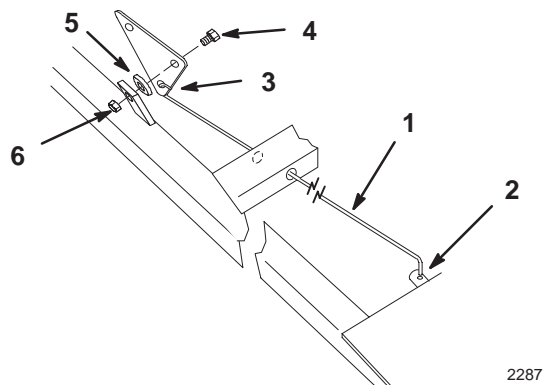

Figure 2
3. Place index rod through hole in frame and slide into hole in index pin (Fig. 2).
4. Hook index rod into front hole of index plate and attach to frame with 3/8 x 1" bolt, 3/8" washer and 3/8" lock nut (Fig. 2).